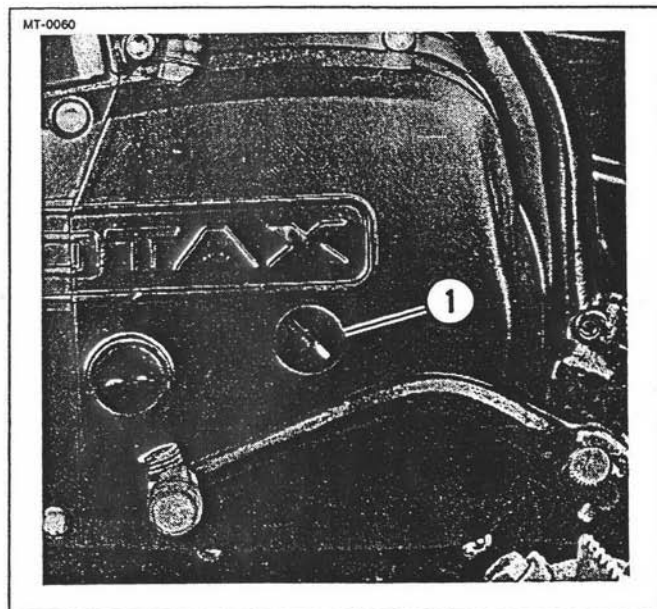
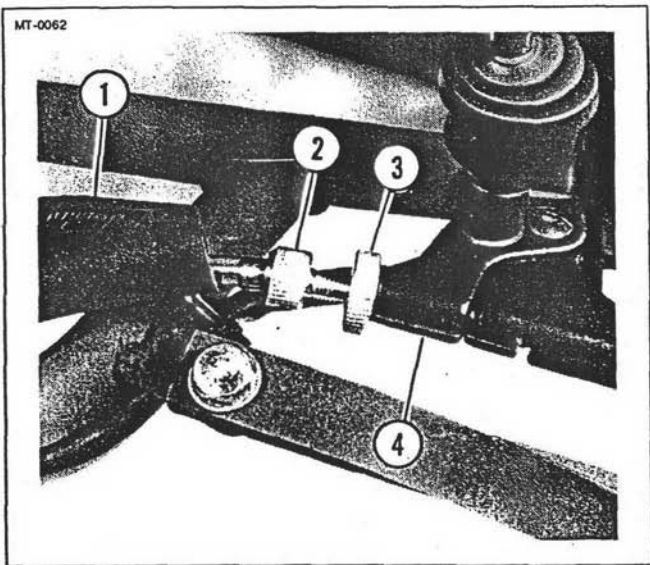

Figure 5-29. Clutch Adjustment Access Plug
Figure 5-30. Cable Adjuster
1. See Figure 5-29. Using screwdriver handle from vehicle tool kit, remove clutch adjustment access plug (1).
2. See Figure 5-30. Pull clutch lever shroud (1) back far enough to expose cable adjuster (2). Loosen locknut (3) and rotate adjuster (2) until it goes as far as possible into clutch lever body (4). This is necessary to remove all tension from the cable and to obtain maximum free play in the lever.
5. See Figure 5-30. Rotate adjuster (2) out from clutch lever body (4) until lever is comfortable for operator.
6. Tighten locknut (3) and pull shroud (1) back into position.
7. See Figure 5-29. Replace clutch adjustment access plug (1).